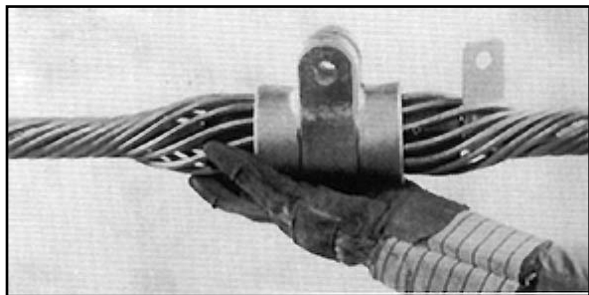

FIGURE 9
- 3.06 Place the Suspension Housing on both sides of the neoprene insert and rod assembly with the bolt hole facing up. Slide the Suspension Strap into position around the housing. Tap firmly into place with the heel of your hand. (Figure 9)